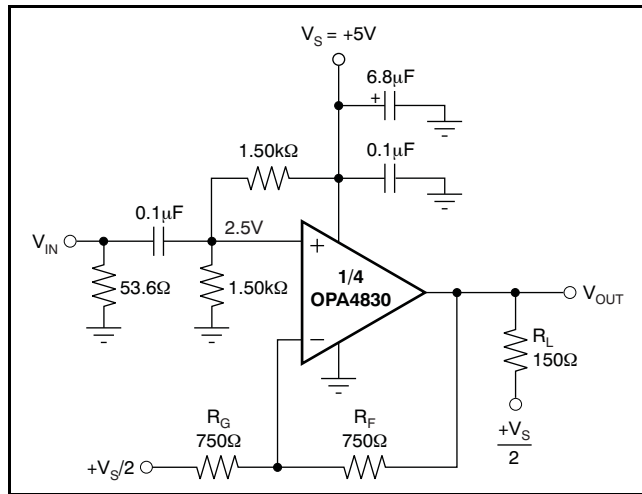
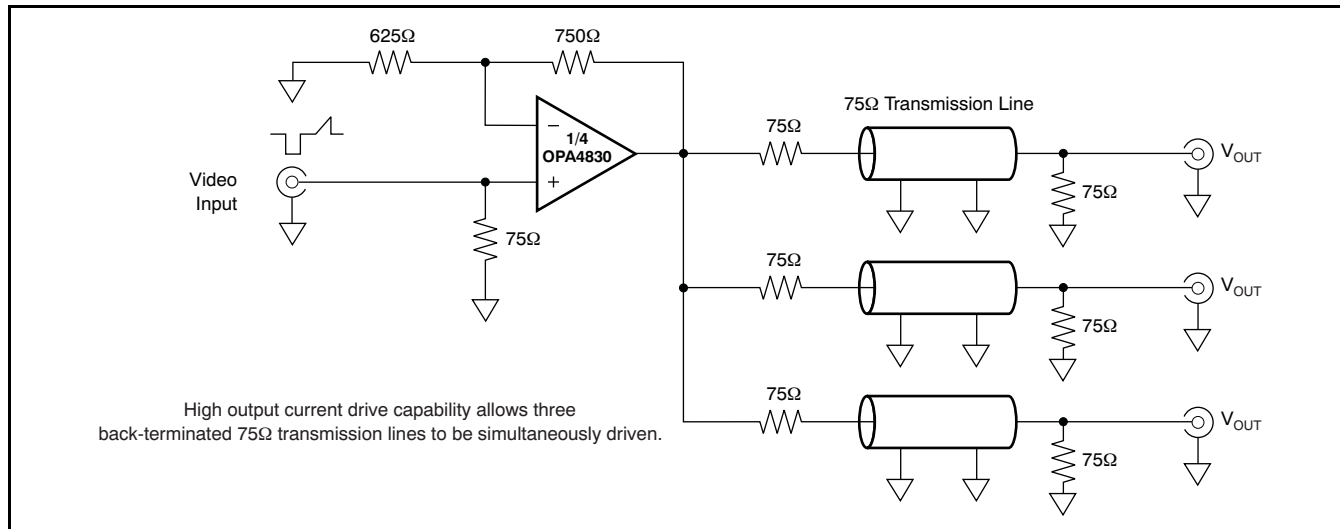

Figure 72. AC-Coupled, G = +2V/V, +5V Single-Supply Specification and Test Circuit
Figure 86. Video Distribution Amplifier
At  $T_A = +25^\circ C$ ,  $G = +2V/V$ ,  $R_F = 750\Omega$  to  $V_S/2$ , and input  $V_{CM} = 2.5V$ , unless otherwise noted (see Figure 72).
Figure 72 shows the ac-coupled, gain of +2V/V configuration used for the +5V Electrical Characteristics and Typical Characteristics. For test purposes, the input impedance is set to 50Ω with a resistor to ground. Voltage swings reported in the Electrical Characteristics are taken directly at the input and output pins. For the circuit of Figure 72, the total effective load on the output at high frequencies is 150Ω || 1500Ω. The 1.5kΩ resistors at the noninverting input provide the common-mode bias voltage. This parallel combination equals the dc resistance at the inverting input (RF), reducing the dc output offset because of input bias current.
The circuit in Figure 72 can be redesigned to have less peaking by increasing the noise gain to 3. This increase is accomplished by adding  $R_C = 2.55k\Omega$  across the op amp inputs.
Both the input signal and the gain setting resistor are ac-coupled using  $0.1\mu F$  blocking capacitors (actually giving bandpass response with the low-frequency pole set to 32kHz for the component values shown). As discussed for Figure 72, this configuration allows the midpoint bias formed by the two  $1.87k\Omega$  resistors to appear at both the input and output pins. The midband signal gain is set to +4 (12dB) in this case. The capacitor to ground on the noninverting input is intentionally set larger to dominate input parasitic terms. At a gain of +4, the OPA4830 on a single supply shows 30MHz small- and large-signal bandwidth. The resistor values have been slightly adjusted to account for this limited bandwidth in the amplifier stage. Tests of this circuit show a precise 1MHz,  $-3dB$  point with a maximally-flat passband (above the 32kHz ac-coupling corner), and a maximum stop band attenuation of 36dB at the amplifier  $-3dB$  bandwidth of 30MHz.
The circuit of Figure 72 applies to this requirement if all references to 50Ω resistors are replaced by 75Ω values. Often, the amplifier gain is further increased to 2.2, which recovers the additional dc loss of a typical long cable run. This change would require the gain resistor ( $R_G$ ) in Figure 72 to be reduced from 750Ω to 625Ω. In either case, both the gain flatness and the differential gain/phase performance of the OPA4830 provide exceptional results in video distribution applications. Differential gain and phase measure the change in overall small-signal gain and phase for the color sub-carrier frequency (3.58MHz in NTSC systems) versus changes in the large-signal output level (which represents luminance information in a composite video signal). The OPA4830, with the typical 150Ω load of a single matched video cable, shows less than 0.07%/0.17° differential gain/phase errors over the standard luminance range for a positive video (negative sync) signal. Similar performance would be observed for multiple video signals (see Figure 86).